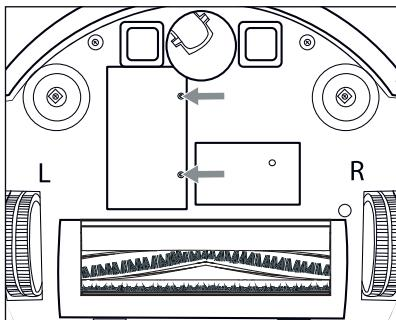

Fig. 16
- Loosen the two screws of the battery compartment cover 26 (see Fig. 16) on the underside of the appliance using a Phillips screwdriver, and remove it from the appliance. Remove the battery compartment cover 26 from the appliance.